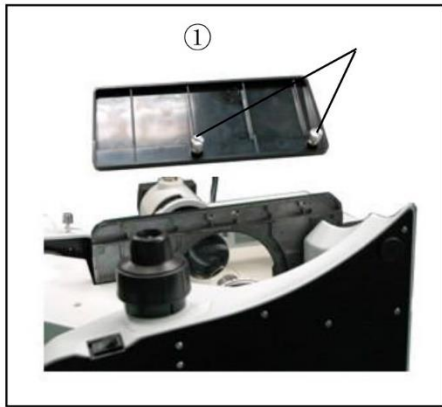

Figure 14
2.2.10. Installing the stage lengthen splint and the mechanical ruler (Figure 14, 15)